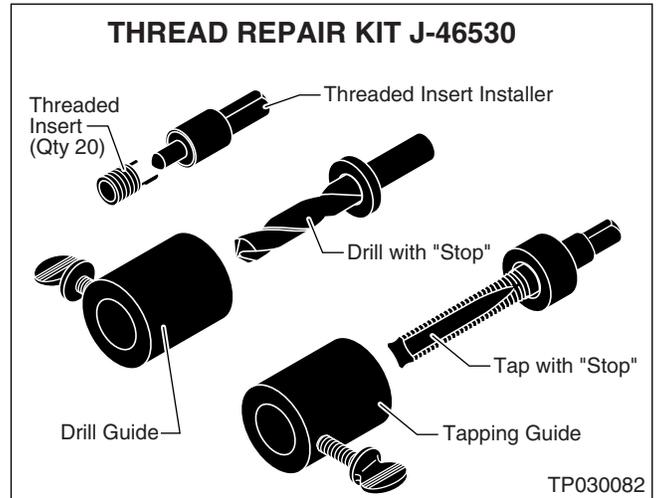

Figure G1
1. Obtain the Thread Repair Kit J-46530 and make sure all components are in the kit (see Figure G1).